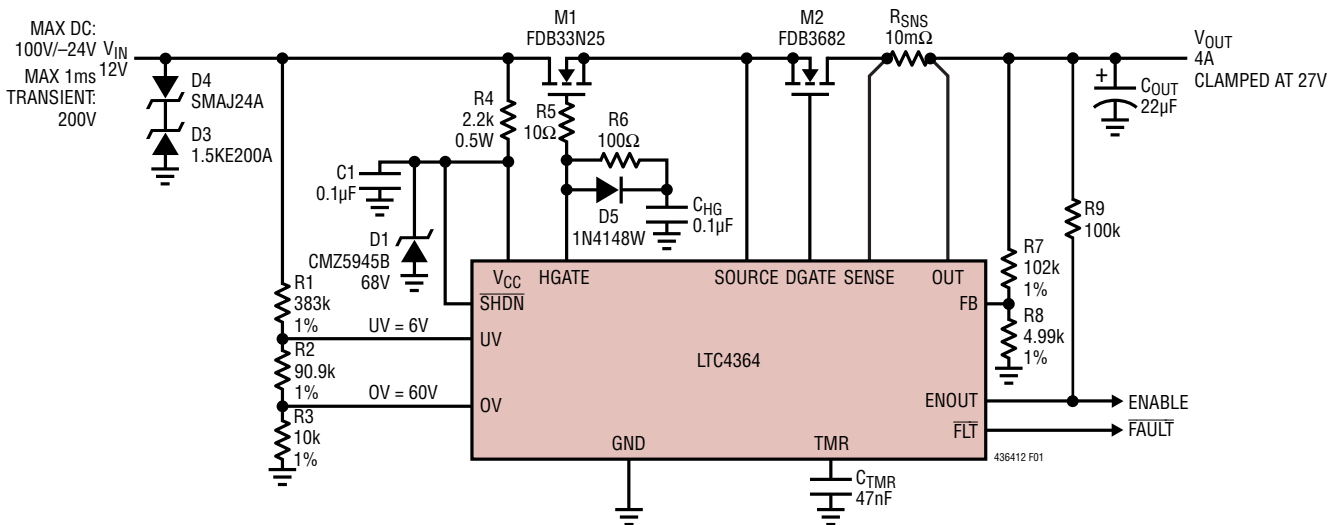

Figure 1. 4A, 12V Overvoltage Output Regulator with Reverse Current Protection
**$\Delta V_{HGATE}$  vs  $V_{IN}$  in Figure 1**
**$\Delta V_{DGATE}$  vs  $V_{IN}$  in Figure 1**
The LTC4364 drives an N-channel MOSFET (M1) at the HGATE pin to limit the voltage and current to the load circuitry during supply transients or overcurrent events. The selection of M1 is critical for this application. It must stay on and provide a low impedance path from the input supply to the load during normal operation and then dissipate power during overvoltage or overcurrent conditions. The LTC4364 also drives a second N-channel MOSFET (M2) at the DGATE pin as an ideal diode to protect the load from damage during reverse polarity input conditions, and to block reverse current flow in the event the input collapses. A typical application circuit using the LTC4364 to regulate the output at 27V during input surges with reverse input protection is shown in Figure 1.
Input overvoltage is detected with the OV pin and an external resistive divider connected to the input (Figure 1). At power-up, if the OV pin voltage is higher than its 1.25V threshold before the 100 $\mu\text{s}$  internal power-on-reset expires, or before the input undervoltage condition is cleared at the UV pin, the HGATE pin will be held low until the OV pin voltage drops below its threshold. To prevent start-up in the event the board is hot swapped into an overvoltage supply, separate resistive dividers with filtering capacitors can be used for the OV and UV pins (Figure 2). The RC constants should be skewed so that  $\tau_{\text{UV}}/\tau_{\text{OV}} > 50$ . In Figure 2, if the board is plugged into a supply that is higher than 60V, the LTC4364 will not turn on the pass devices until the supply voltage drops below 60V.
The LTC4364 detects input undervoltage conditions such as low battery using the UV pin. When the voltage at the UV pin is below its 1.25V threshold, the HGATE pin pulls low to keep the pass device off. Once the UV pin voltage rises above the UV threshold plus the UV hysteresis (50mV typical), the HGATE pin is allowed to pull up without going through a timer cycle. In Figure 1 and Figure 2, the input UV threshold is set by the resistive dividers to 6V. An undervoltage condition does not produce an output at the  $\overline{\text{FLT}}$  pin.
The LTC4364 drives two N-channel MOSFETs, M1 and M2, as the pass devices to conduct the load current (Figure 1). The important features are on-resistance,  $R_{\text{DS(ON)}}$ , the maximum drain-source voltage,  $V_{(\text{BR})\text{DSS}}$ , the threshold voltage, and the safe operating area, SOA (for M1).
The added gate capacitor slows down the turn-off time during fault conditions and allows higher peak currents to build up during an output short event. If this is a concern, an extra resistor,  $R_6$ , in series with  $C_{HG}$  can restore the turn-off time. A diode,  $D_5$ , should be placed across  $R_6$  with the cathode connected to  $C_{HG}$  as shown in Figure 1. In a fast transient input step,  $D_5$  provides a bypass path to  $C_{HG}$  for the benefit of holding HGATE low and preventing self enhancement.
The LTC4364 is tested to operate to 80V and guaranteed to be safe from damage between 100V and –40V. Voltage transients above 100V or below –40V may cause permanent damage. During a short-circuit condition, the large change in current flowing through power supply traces coupled with parasitic inductances from associated wiring can cause destructive voltage transients in both positive and negative directions at the  $V_{CC}$ , SOURCE, and OUT pins. To reduce the voltage transients, minimize the power trace parasitic inductance by using short, wide traces. A small RC filter (R4 and C1 in Figure 1) at the  $V_{CC}$  pin filters high voltage spikes of short pulse width.
Another way to limit supply transients above 100V at the  $V_{CC}$  pin is to use a Zener diode and a resistor, D1 and R4, as shown in Figure 1. D1 clamps voltage spikes at the  $V_{CC}$  pin while R4 limits the current through D1 to a safe level during the surge. In the negative direction, D1 along with R4 clamps the  $V_{CC}$  pin near GND. The inclusion of R4 in series with the  $V_{CC}$  pin increases the minimum required supply voltage due to the extra voltage drop across the resistor, which is determined by the supply current of the LTC4364 and the leakage current of D1. 2.2k adds about 1V to the minimum operating voltage.
For sustained, elevated supply voltages, the power dissipation of R4 in Figure 1 becomes unacceptable. This can be resolved by using an external depletion mode N-channel MOSFET to replace R4 (M1 in Figure 7a) or using an external NPN transistor (Q1 in Figure 7b) as a buffer. To protect Q1 against supply reversal, block the collector of Q1 with a series diode or tie it to the cathode of D3 and D4 in Figure 1.
Transient suppressor D3 in Figure 1 clamps the input voltage to 200V for voltage transients higher than 200V, to prevent breakdown of M1. It also blocks forward conduction in D4. D4 limits the SOURCE pin voltage to 24V below GND when the input goes negative.  $C_{OUT}$  helps absorb the inductive energy at the output upon a sudden input short, protecting the OUT and SENSE pins.